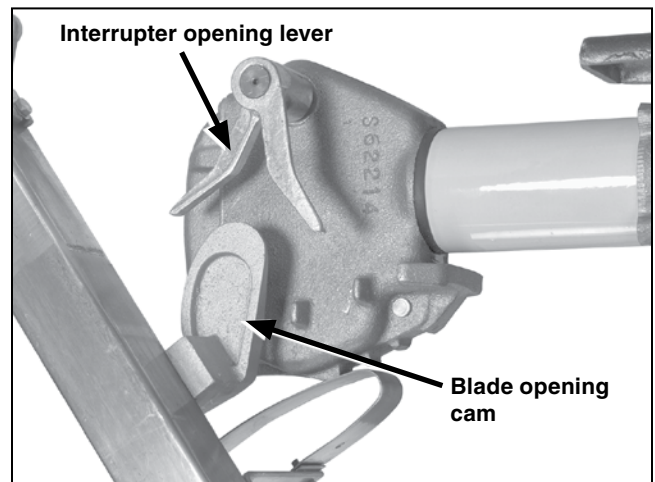

Figure 50. Verify blade-opening cams do not hit interrupter-opening levers on closing.
- (f) After opening the blade fully, slowly close the blade and verify the two opening cams do not hit the interrupter-opening levers. See Figure 50.